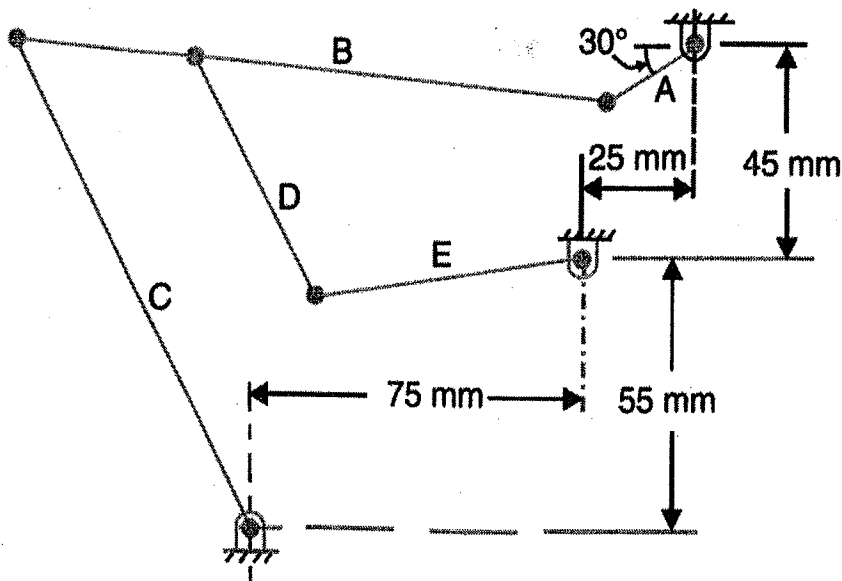

Figure Q1
- In the mechanism shown in Figure Q1 find the instantaneous centers of the links B, C and D. If the link A rotates clockwise at 10 rad/s, write expressions to find the angular velocity of link E. The lengths of links are as follows: